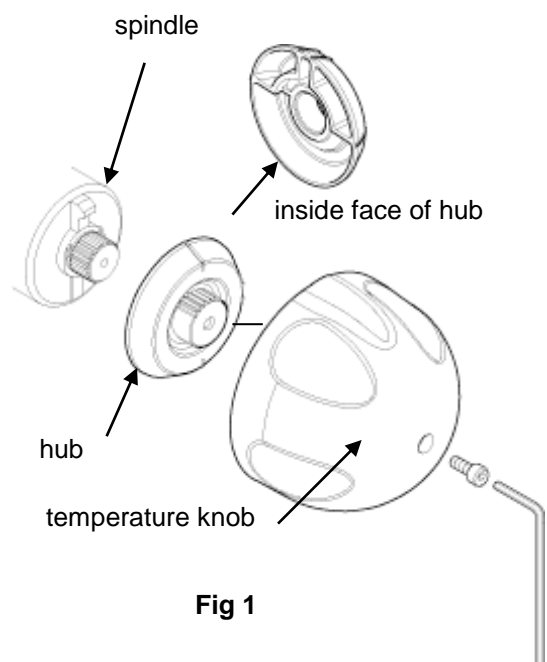

Fig 1
2. Remove the temperature knob and hub using the 3mm allen key supplied (refer to **Figure 1**)
4. Pull off the hub (refer to Figure 1)